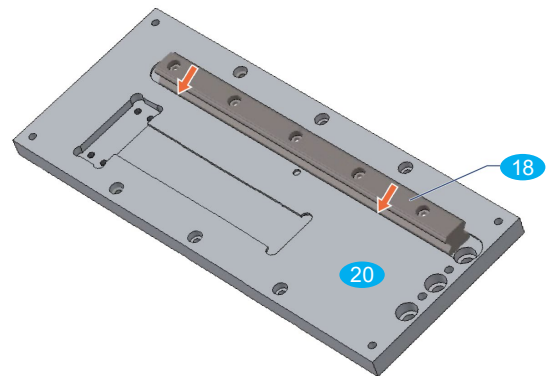

Fig. 36: Assembly of Z-axis linear rail
- Align the linear rail Z **18** on the plate Z **20** and screw it in with socket head screws **C5**; the lower edge of the linear rail must lie on the milled stop edge of plate Z over its entire length (red arrows in Fig. 36). Tightening torque: 6 Nm